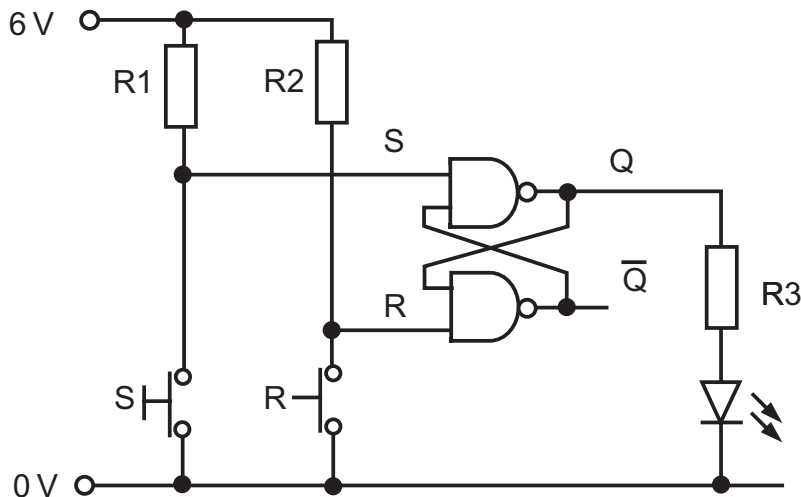

Fig. 9(a)
9 Fig. 9(a) shows a logic circuit which uses switches as inputs and has an LED output.
- (a) (i) Name the type of logic gate used in the circuit shown in Fig. 9(a). [1]
- (ii) Name the arrangement of gates shown in Fig. 9(a). [1]
- (iii) Briefly explain the function of the resistors R1 and R2 in the circuit shown in Fig. 9(a). [2]
- (iv) Draw a truth table for the circuit shown in Fig. 9(a) for the inputs S and R and the outputs Q and \bar{Q} . [5]
- (b) The LED in **Fig. 9(a)** is designed to work at a forward voltage of 1.8 volts and a current of 15 mA.
- (i) Calculate the value of resistor R3 in **Fig. 9(a)** required to allow the LED to function safely. Assume that the output voltage corresponding to a logic high is 6 volts. [2]
- (c) The circuit shown in **Fig. 9(a)** is to be modified to switch on a high voltage motor using a transistor and relay based circuit. Using an annotated circuit diagram show how this modification could be achieved. [4]